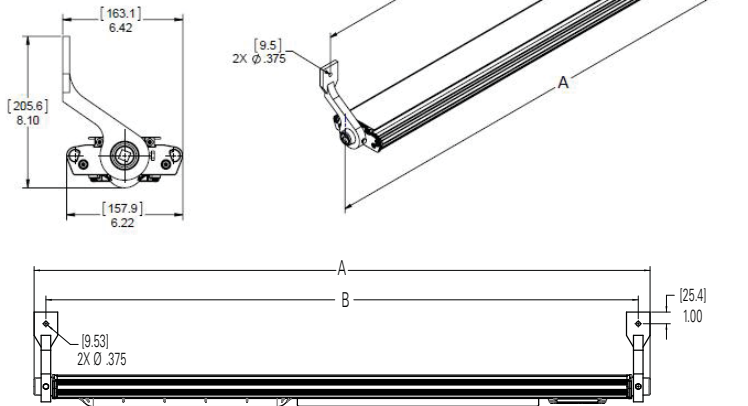

Figure 1. DP1052MTK Side Mount Installation
2. Mark and drill holes for fastening end brackets. Use two (2) 1/4" bolts (not supplied) at center measurements (see Figure 1).
3. Fixture is now ready for mounting. It is strongly suggested to use two (2) qualified tradespeople to proceed with the final mounting of the fixture. This is recommended to avoid any personal injury or damage to the fixture.